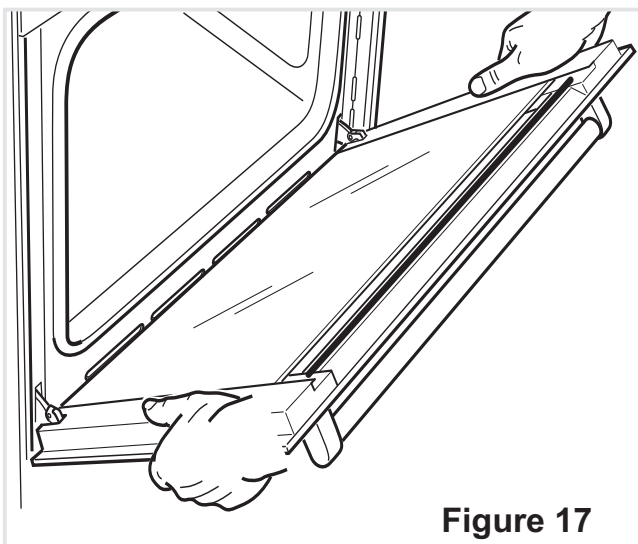

Figure 17
- Hold the door as shown in fig. 17.